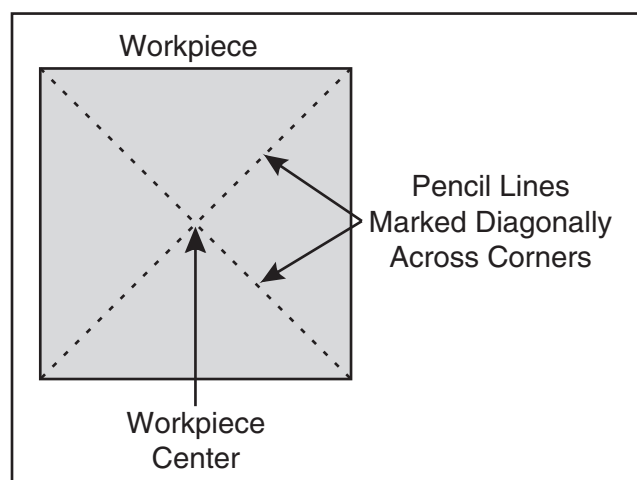

Figure 21. Workpiece marked diagonally from corner to corner to determine the center.
1. Mark both ends of your workpiece by drawing diagonal lines from corner to corner. The intersection point of these lines will show you the center of your workpiece. See Figure 21 for details.